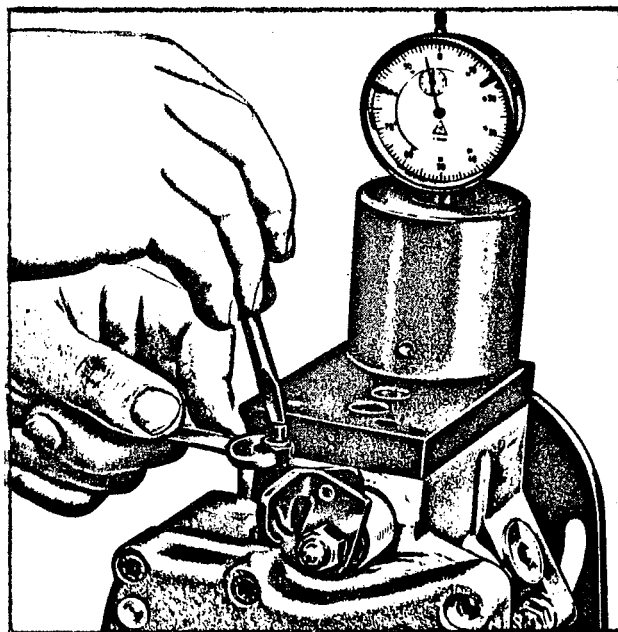

Fig. 24 - Plunger Travel Basic Adjustment
- carry out the basic adjustment of the plunger travel by acting on the adjusting pin (49) of the enriching device lever (68)(refer to fig. 24).
- make sure that the gauge pointer is aligned with mark "0"; possible corrections may be carried out by screwing in or out the adjusting pin (49) of the enriching device lever (68) (see fig. 24).